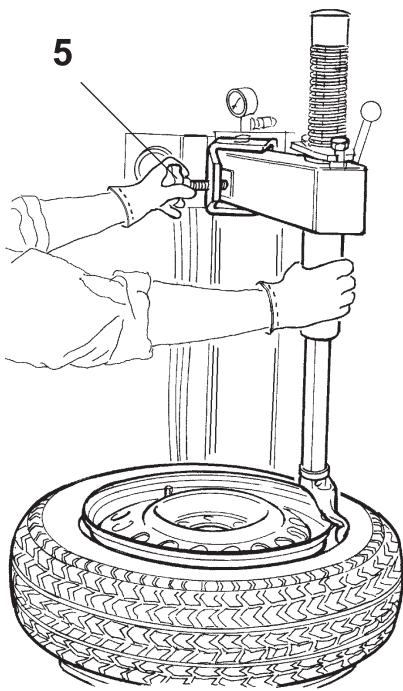

Fig.13b
Turn knob (5) in order to adjust the mount/demount head as illustrated in Figure 13b.